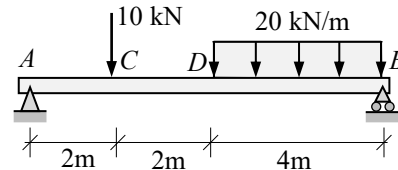

Figure 4
4. For the simply supported beam shown in Fig. 4, calculate the support reactions, write the shear force and bending moment equations in each segment, and neatly sketch the shear force and bending moment diagrams indicating all salient points. [10]